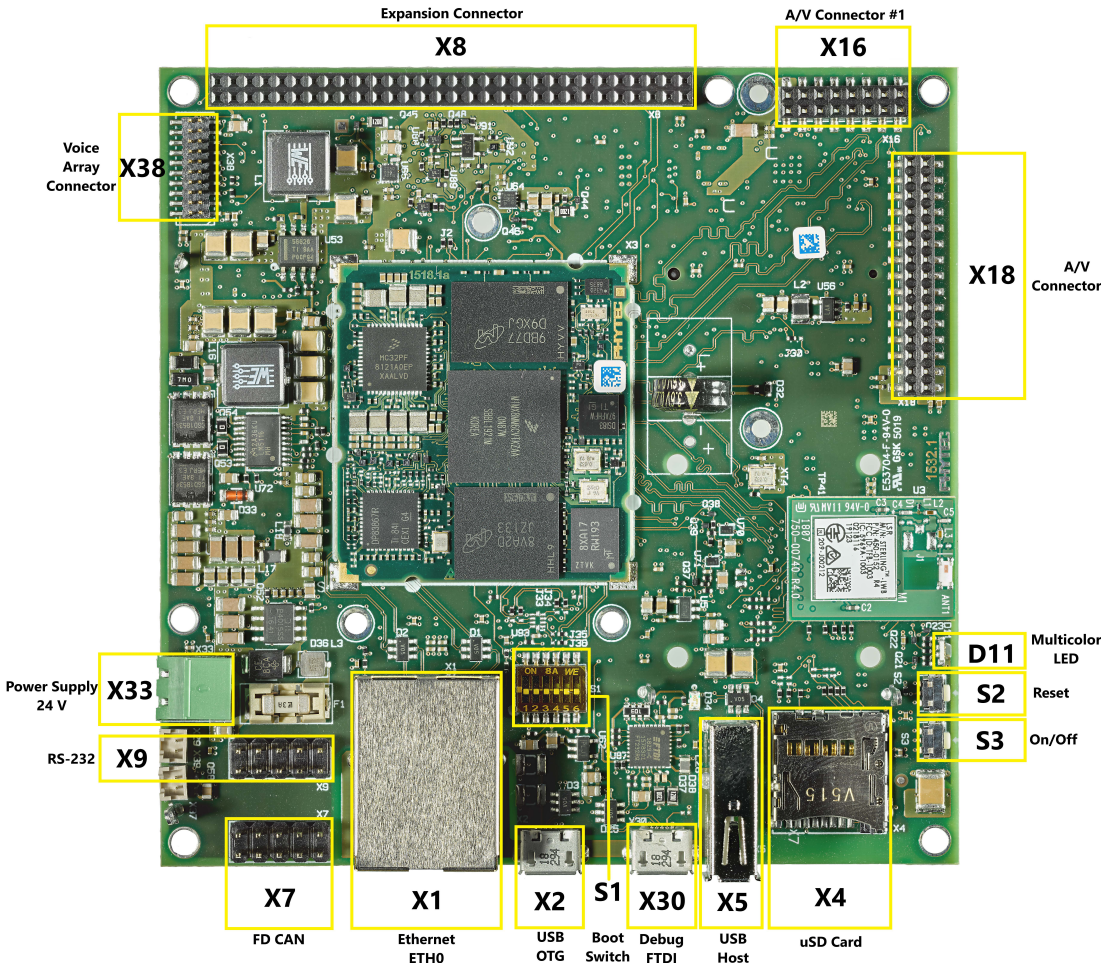

Figure 1: SD Card Boot Configuration
4. Ensure the boot mode jumpers are set to SD Card (Figure 1).